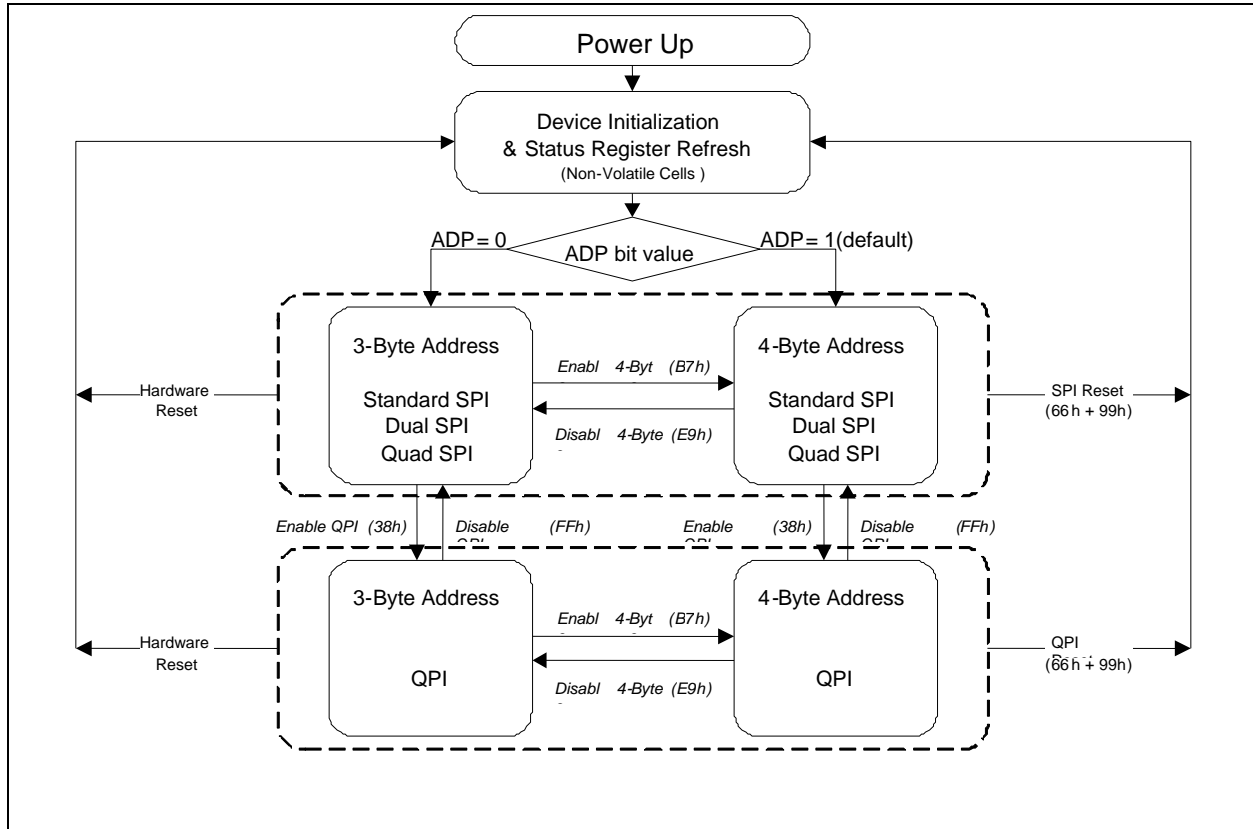

Figure 3. W25Q257FV Serial Flash Memory Operation Diagram
The W25Q257FV supports Quad Peripheral Interface (QPI) operations only when the device is switched from Standard/Dual/Quad SPI mode to QPI mode using the “Enter QPI (38h)” instruction. The typical SPI protocol requires that the byte-long instruction code being shifted into the device only via DI pin in eight serial clocks. The QPI mode utilizes all four IO pins to input the instruction code, thus only two serial clocks are required. This can significantly reduce the SPI instruction overhead and improve system performance in an XIP environment. Standard/Dual/Quad SPI mode and QPI mode are exclusive. Only one mode can be active at any given time. “Enter QPI (38h)” and “Exit QPI (FFh)” instructions are used to switch between these two modes. Upon power-up or after a software reset using “Reset (99h)” instruction, the default state of the device is Standard/Dual/Quad SPI mode. To enable QPI mode, the non-volatile Quad Enable bit (QE) in Status Register-2 is required to be set. When using QPI instructions, the DI and DO pins become bidirectional IO0 and IO1, and the /WP and /HOLD pins become IO2 and IO3 respectively. See Figure 3 for the device operation modes.